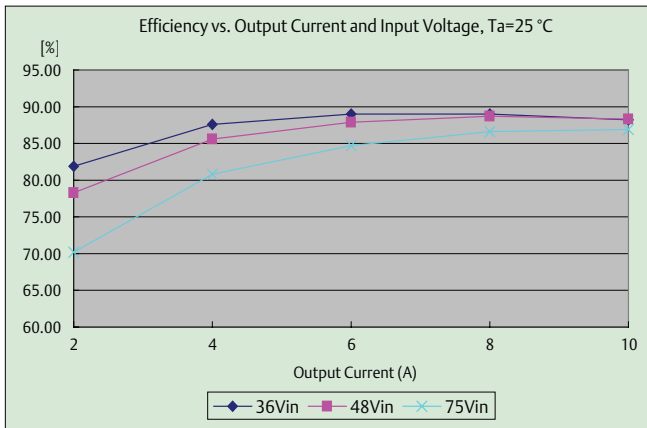

Figure 10. 3.3V Efficiency vs. Output Current at Various Input Line Conditions, Ta = 25 °C
- Output derating applies at elevated temperature. See Figure 10.